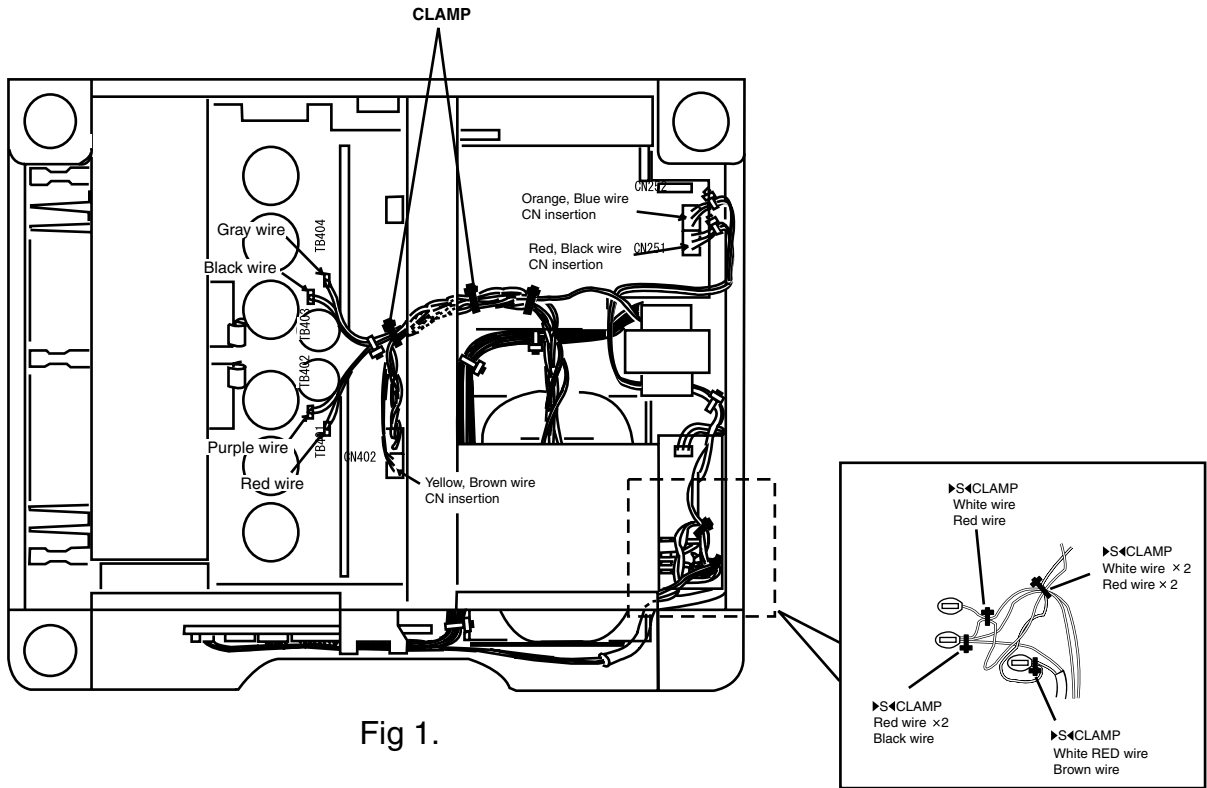

Fig 1.
■ Removing the metal cover (See Fig. 1)